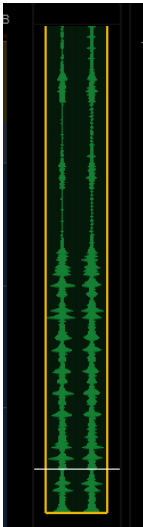

Figure 77. Indication of a clip targeted for editing
Clips are targeted for editing when they reach the playhead on the Display Modules when in any Waveform view as shown in Figure 77. Resolution of edits and moves using the **Sel** and **In** switches is determined by the Pro Tools Nudge value, which can also be adjusted directly from S6. Edits made by rotating S6 knobs use the current Knob Preference settings (see Knob Speed and Sensitivity).
- 3 Cue the session so that a clip is in contact with the Display Module playhead. On the Display Module, a yellow border or bracket appears around any clip that is in contact with the playhead on a strip in Edit mode (see Figure 77).